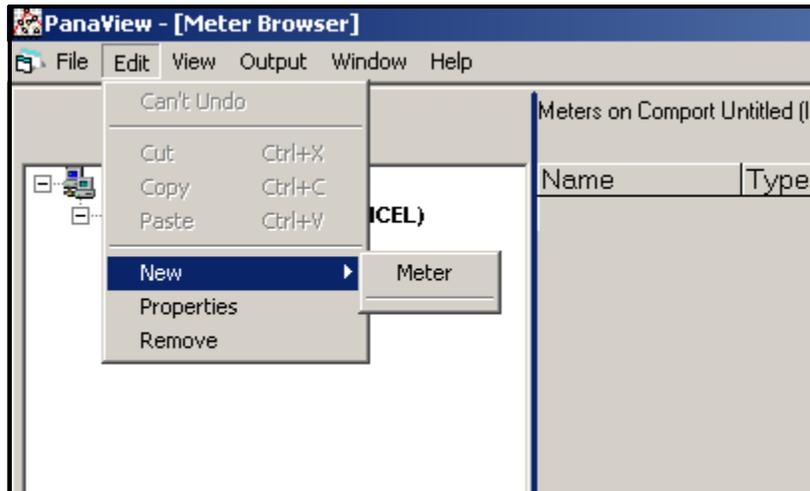

Figure 20: "New" Option in the "Edit" Menu
2. Click on the "New" option in the "Edit" menu (see Figure 20 below).